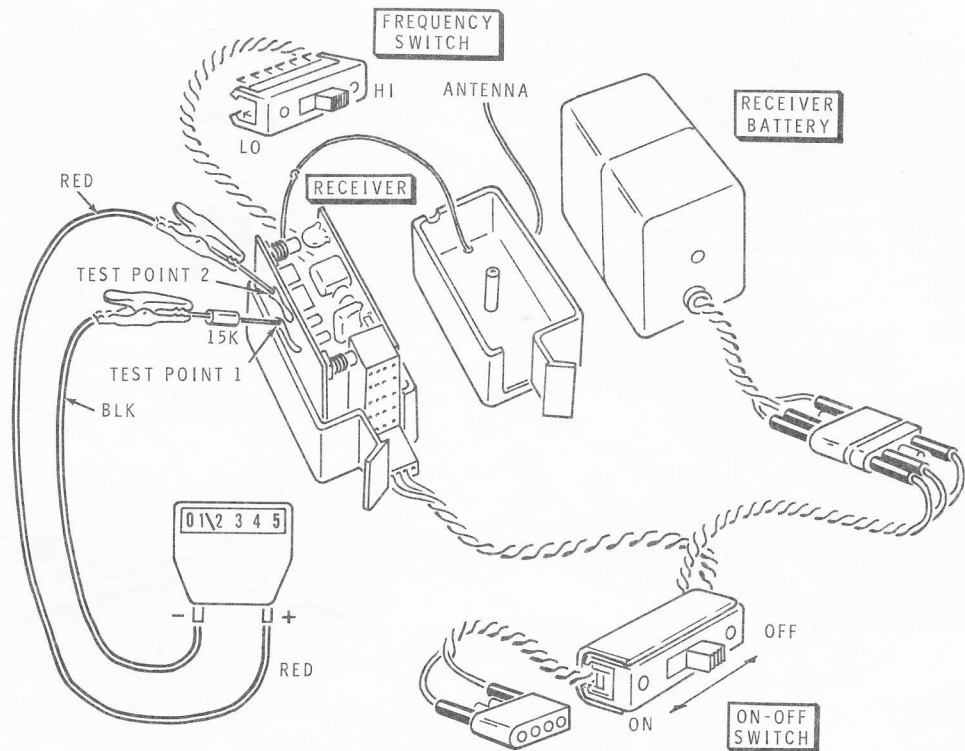
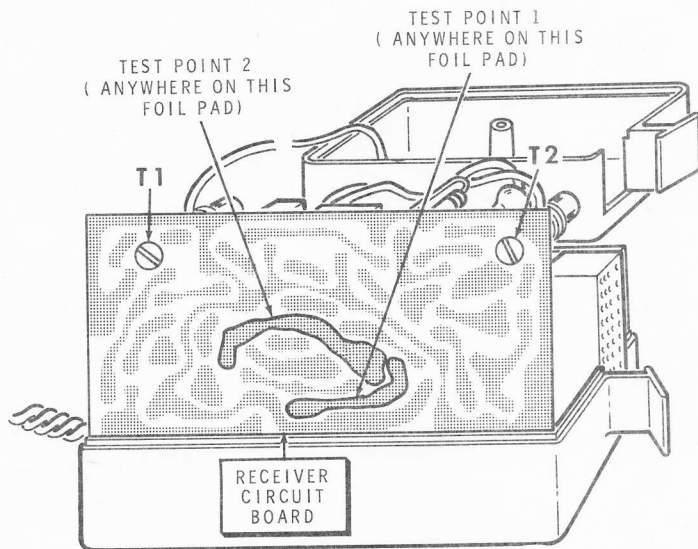

Figure 3
Figure 4
Refer to Figure 3 and Figure 4 (fold-out from Page 39) for the following steps.
- (/) Turn the receiver battery switch on. The meter should deflect only a slight amount. See the meter drawing in Figure 3. If the meter does not react in this manner, refer to the chart on the following page and investigate each of the possible causes until you find and correct your difficulty. Then continue on Page 40.
Refer to Figure 4 (fold-out from Page 39) for the next two steps.